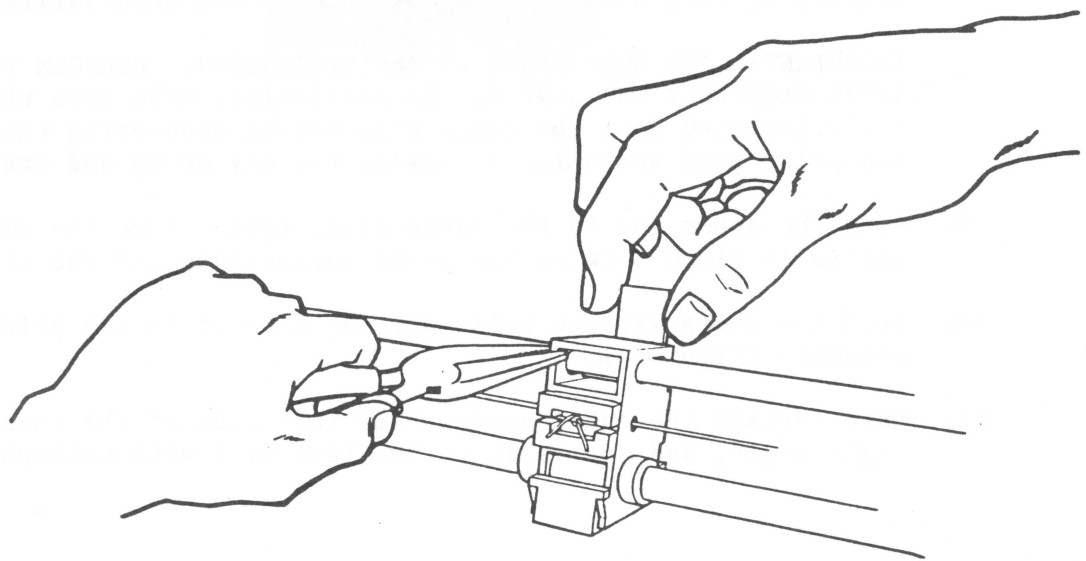

FIGURE 7
3. Using needlenose pliers, gently pull the head carrier toward the front of the printer (see Figure 7).
4. With your fingers, pull the head upward -- carefully -- sliding it out of the head carrier (see Figure 7). If you can't pull the head out with your fingers, stand the chassis on end and carefully push the head out of the carrier with a screwdriver.